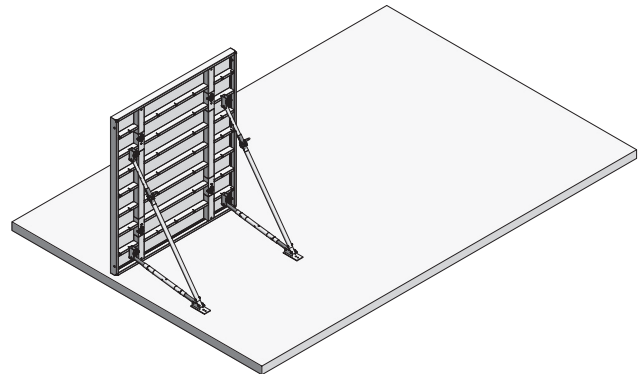

Fig. 5.1
2. Place the first panel and immediately attach it to the ground or concrete slab with two brace frames to prevent it falling over (Fig. 5.1). The foot plate must be firmly connected to the ground or concrete slab – in earth with two ground pegs, in concrete with two heavy-duty dowels.